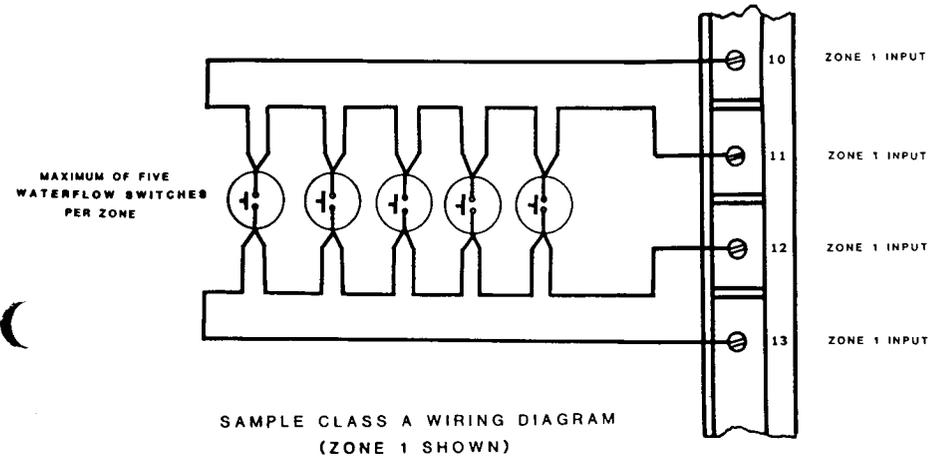

FIGURE 5
Zones 1 and 2 are Class A fire zones. No End-of-Line resistors are needed for these zones. Zone 1 inputs are wired into terminals 10, 11, 12 and 13 as shown in the example in figure 5. Zone 2 inputs are wired into terminals 14, 15, 16, and 17.
**NOTE:** Referring to Figure 5 and the Wiring Diagram above, the limitation of 5 devices is a National Fire Code limitation for Sprinkler Flow Switches only.